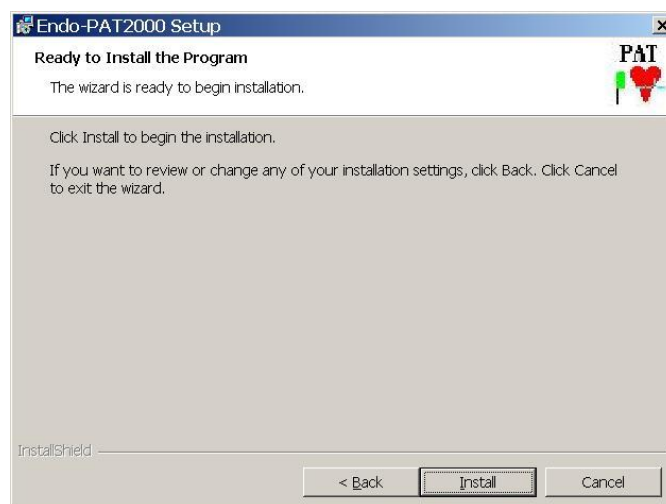

Figure 8 – Ready to install the program screen
7. Press “Install” to complete the installation process or “Back” to review or change any of your installation settings” (Figure 8).